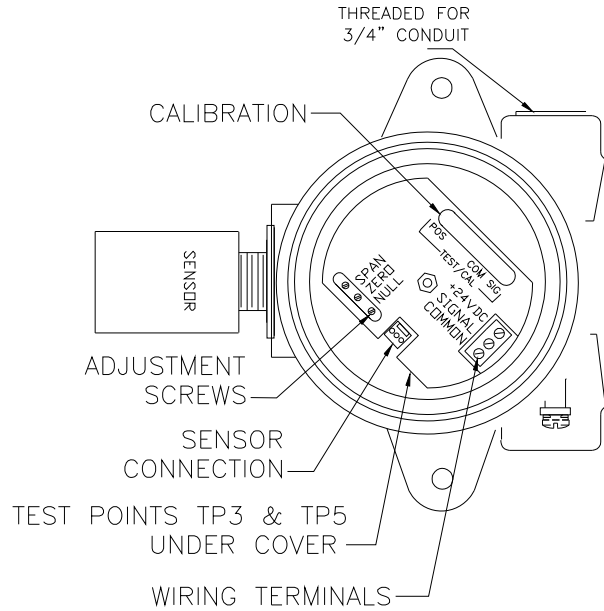

Figure 1 Connection and Adjustments
1. If sensor is NEW, pull out electronics module slightly and measure voltage between NULL testpoints TP3 & TP5 (use 200 mV scale) and adjust NULL to get 000.0 mV. (See Figure 1.)